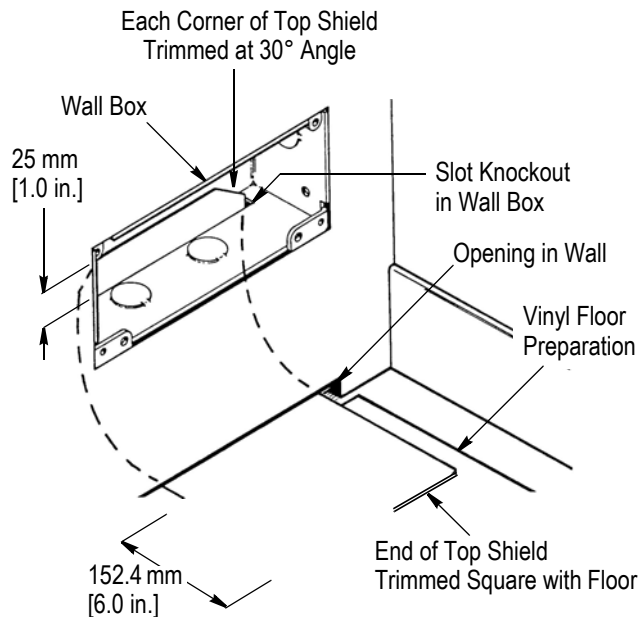

Figure 4
- a. Cut a piece of top shield approximately 457 mm [18 in.] long or as needed to extend approximately 25.4 mm [1.0 in.] into the wall box and 152.4 mm [6.0 in.] outside the wall. Refer to Figure 4.
- b. Trim the corners of the top shield at a 30° angle from the end that will extend into the wall box. Cut the end of the top shield that will extend from the wall so that it is square with the floor. See Figure 4.
- d. If the vinyl floor preparation is used, install the top shield (used as a "bottom shield") on top of the vinyl floor preparation. See Figure 4.